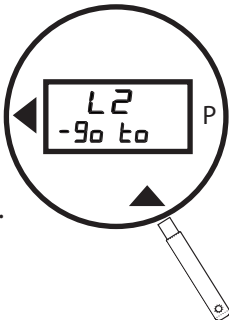

Figure 18.
- Pass the wand over the **▲** once. The selection will advance to **L2 -Go to** (Figure 18).